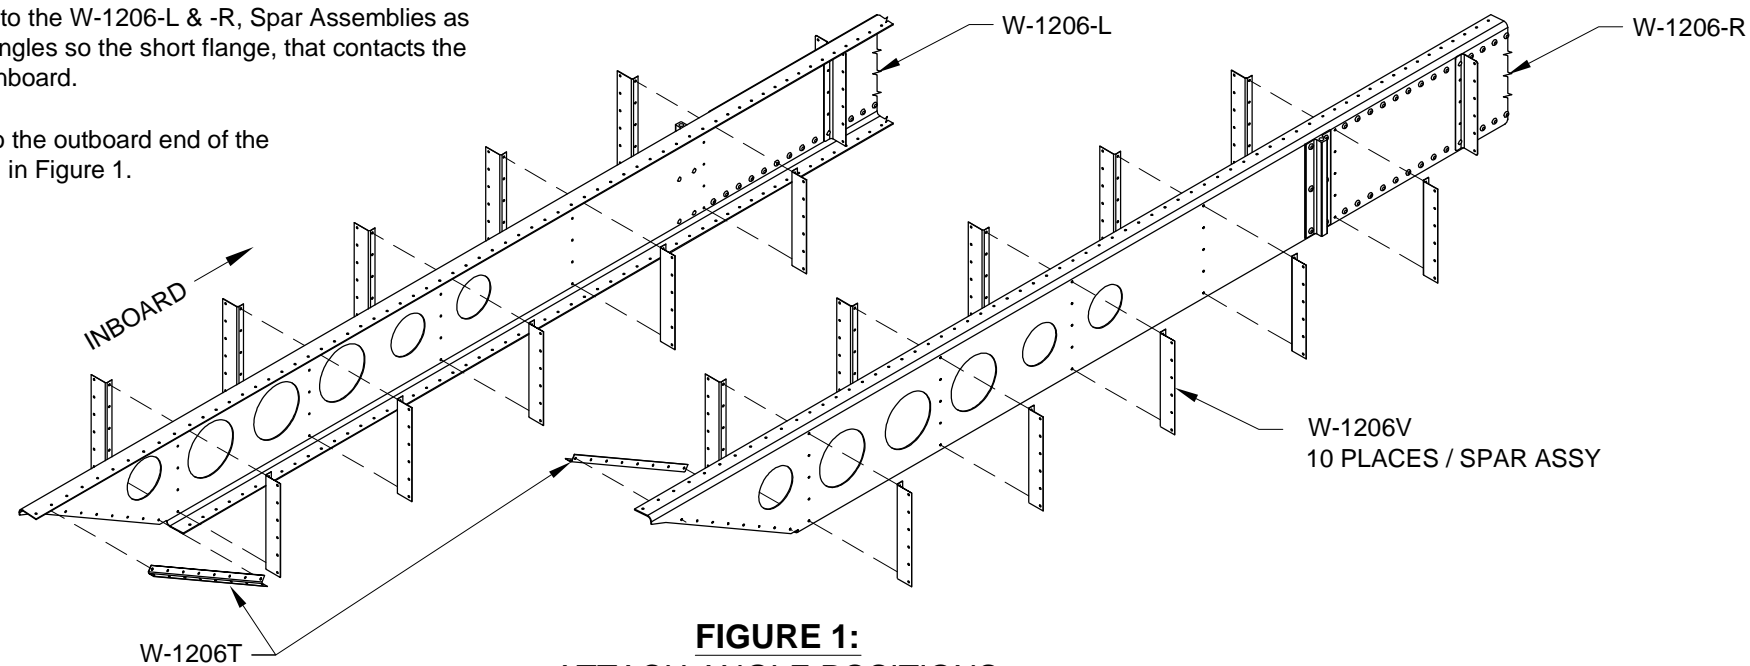

FIGURE 1:
Step 1: Cleco the W-1206V Attach Angles to the W-1206-L & -R, Spar Assemblies as shown in Figure 1. Orient all of the attach angles so the short flange, that contacts the web of the spar assembly channel, points inboard.
Step 2: Cleco the W-1206T Attach Angle to the outboard end of the W-1206-L & -R, Spar Assemblies as shown in Figure 1.